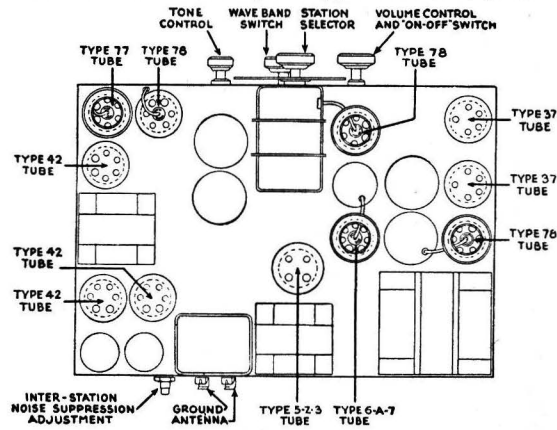

Fig. 1—Top View of Chassis, showing Tube Locations, and Major Parts
The adjustment of the Interstation Noise-Suppression circuit is made with the knurled brass adjustment knob at the rear of the chassis (see Fig. 1). No tools are necessary. This adjustment occurs to Potentiometer (N). Tune the receiver to a moderately strong broadcasting station, adjusting the Station Selector to the exact point of best reception shown by the narrowing of the shadow thrown on the screen of the Shadow Tuning Meter. Place the Toggle Switch (S) in the "S" position. Turn the knurled brass knob of the Potentiometer (N) to the right (clockwise) to increase the sensitivity of the receiver; to the left (counter-clockwise) to decrease the sensitivity. The Volume Control (V) should be set at the point at which the station is comfortably received. The receiver then should be de-tuned, by turning the Station Selector slightly in either direction to a point between adjacent channels; that is, where no broadcasting station is received. The noise-level at this point should be reduced by turning the knurled brass knob to the left until the noise just disappears. Since the electrical noise-level varies in many localities, this adjustment should be made at the time when the between-channel noise-level is greatest. Placing the Toggle Switch (S) in the "D" position disconnects the Interstation Noise Suppression feature. The noise-level between stations will be increased, but distant stations can be received better. When returning to stronger signals, placing the Toggle Switch in the "S" position will again give interstation noise suppression.